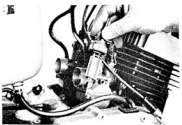

Fig. 4-1-8
6. Remove the carburetor throttle valve. (Fig. 4-1-8)